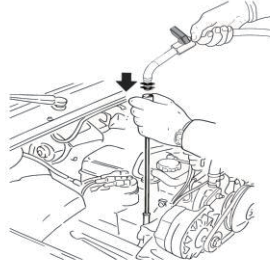

Fig. 3
2. Insert the end of the probe into the engine oil inlet hole of the engine.(Fig.3)
3. Turn on the ball valve ⑥.
4. If waste oil only extracted into the cylinder. Please making sure the valve ③ is closed.
5. If waste oil extracted to the oil tank through the cylinder. Please open the ball valve ③ accordingly.